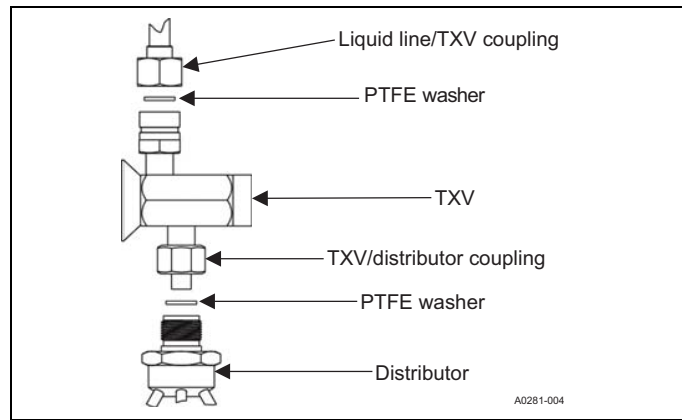

Figure 11: TXV installation
4. Install the thermal expansion valve into the distributor assembly with the supplied fittings. Ensure the PTFE washer is seated in the distributor. Hand tighten and turn an additional 1/4 turn to seal. Do not over-tighten fittings. See **Figure 11**.